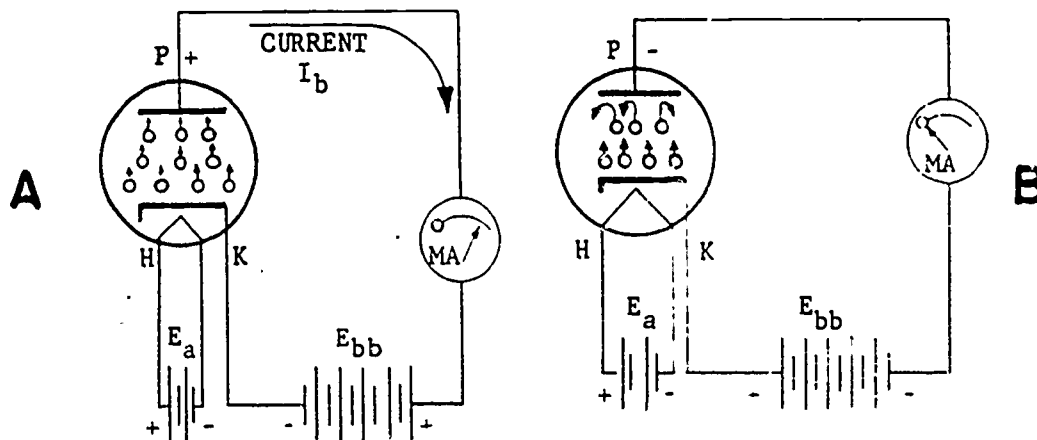

Figure 1-2. Electron flow in a diode.
- (2) Plate. The plate collects the electrons emitted from the cathode. This is caused by making the plate positive with respect to the cathode. The movement of electrons from the cathode to the plate is called the plate current.
- (3) Grids. Grids are made of wire and are used to control the flow of electrons from the cathode to the plate.
b. Diode Tubes. A diode tube has only two electrodes, cathode and plate. When the plate of the diode is made positive with respect to the heated cathode, the plate attracts the electrons, causing current to flow between cathode and plate as shown in figure 1-2. The only control over this current is the difference of potential between the electrodes. If the plate is made negative with respect to the cathode, no current can flow through the tube. Since current can flow in only one direction, from cathode to plate, the current is said to be unidirectional. If E_{bb} in A of figure 1-2 is replaced by an ac source, the tube will conduct on the positive half-cycle (plate positive) but not on the negative half-cycle (plate negative). The diode tube changes the ac wave to dc.